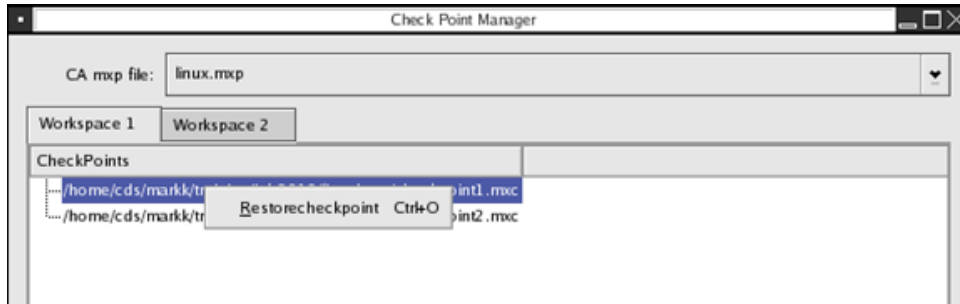

Figure 4-22 Restore Checkpoint context menu
3. Right-click a checkpoint and select **Restore Checkpoint** (Figure 4-22). This spawns a new SoC Designer process and loads the checkpoint.